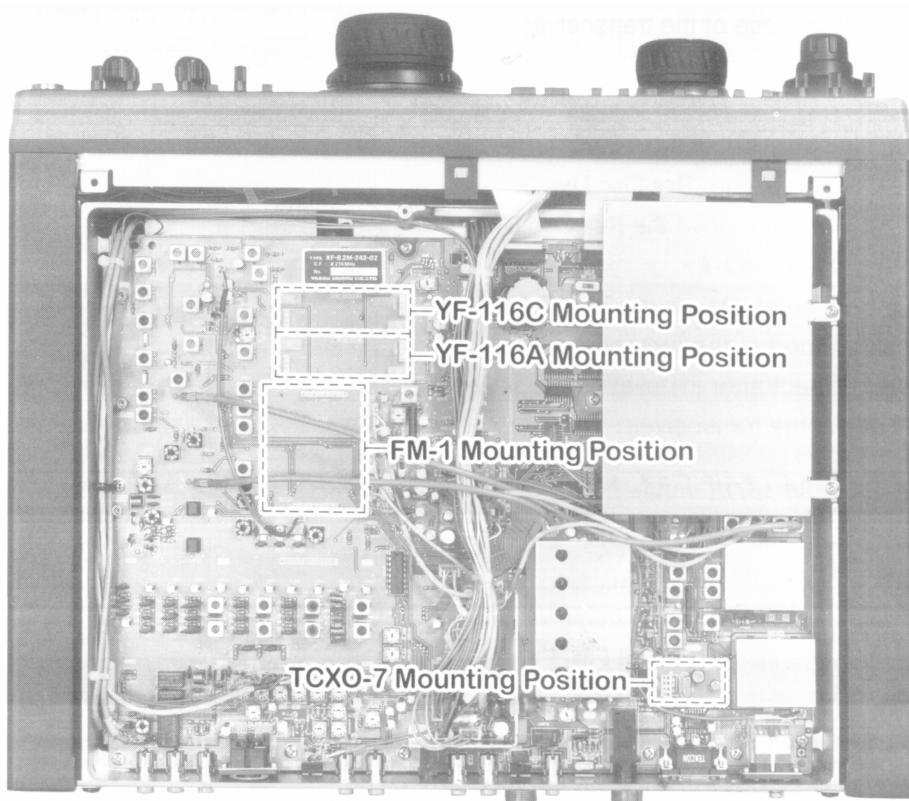

Figure 2
- ① Remove the bottom case of the transceiver (see previous page).
- ② Refer to Figure 2 on the previous page, and locate the mounting positions for the CW (**YF-116C**) and/or AM (**YF-116A**) filters on the **MAIN Unit**.
- ② Refer to Figure 2 on the previous page, and locate the mounting position for the **TCXO-7**, which currently is occupied by the “**REF Osc Unit**.”
- ② Refer to Figure 2 on the previous page, and locate the mounting positions for the **FM-1** on the **MAIN Unit**.